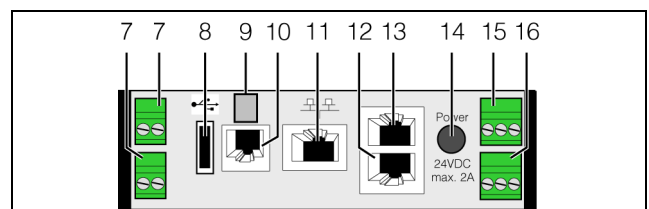

Fig. 9: Rear of the CMC III PU
The voltage sources at positions 7, 10, 12, 13 and 16 (fig. 9) must satisfy the Limited Power Source (LPS) requirements in accordance with UL 60950 and observe the limit values mentioned above.
- Connect the external power pack (7030.060) to the CMC III PU power supply (fig. 9, item 14).
- To do this, connect the 24 V output (direct connection) on the power pack (7030.060) to the appropriate connection of the CMC III PU (fig. 9, item 15).
The above designations "left", "centre" and "right" apply when the device is viewed from the rear (fig. 9).
- For example, connect a PoE switch to the Ethernet interface (fig. 9, item 11).
- If required, insert the external temperature sensor at the rear on the connection of the CMC III PU (fig. 9, item 9).
- Connect the Ethernet interface (fig. 9, item 11) using a network cable with an RJ 45 connector to the existing network structure.
A wide range of sensors, actuators and systems for access monitoring (see section 12 "Accessories") can be connected to the two CAN bus interfaces (fig. 9, item 12 and 13).
An external signal source for the alarm signalling can be connected to the potential-free relay output (fig. 9, item 16).
A floating switch contact can be connected to each of the two digital inputs and so, for example, the fault output of an external device evaluated (fig. 9, item 7).